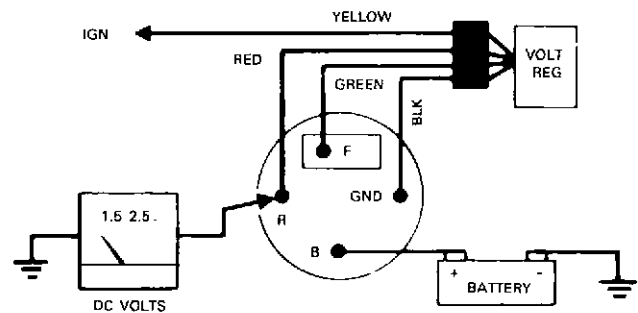

FIG. 3 Ignition On — Engine Not Running
**TEST 1 — IGNITION ON — ENGINE NOT RUNNING (Refer to Fig. 3)**